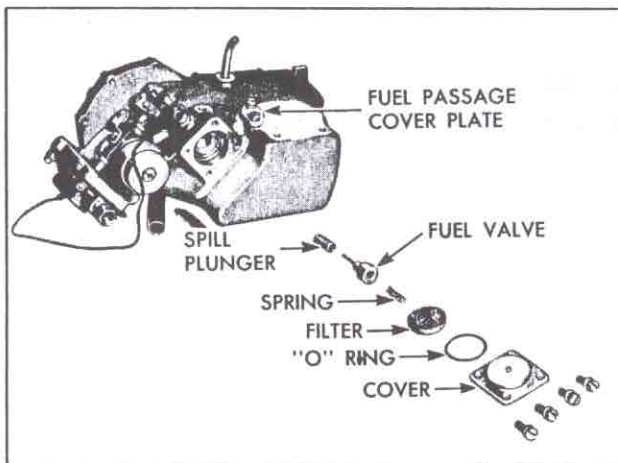

Fig. 154—Fuel Valve Components—Exploded
18. Using a new gasket, install fuel passage cover plate (fig. 154) on side of fuel bowl with two screws and lockwashers.
19. With the fuel meter upside down, install the spill plunger, fuel valve, spring, and filter (fig. 154). If the original filter is being reused, it must be reinstalled with the same side toward the spill plunger to prevent any back-wash effect. This can be checked by touch as the filter side which was toward the cover will have a noticeable depression at the center. Install a new "O" ring on the spill plunger cover and lubricate with light engine oil - not grease. The addition of oil is important to prevent cutting the "O" ring during installation. Carefully push the cover into place until it is fully seated, then install the four screws and lockwashers in a criss-cross pattern.